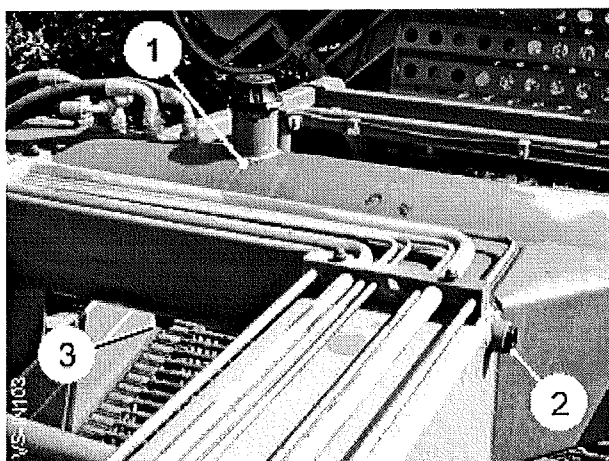
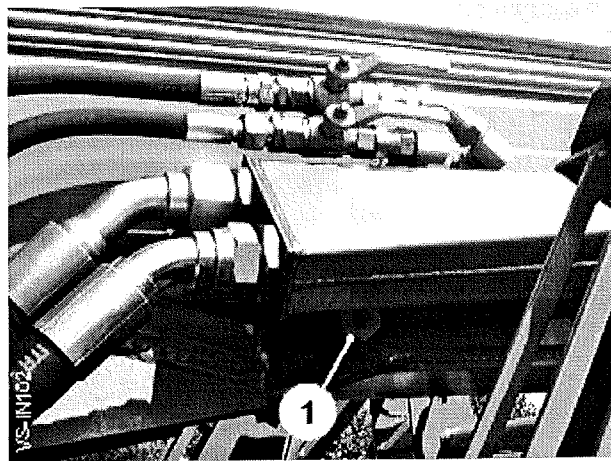

Fig 35
Fig 36
To extend the life of the hydraulic system, the hydraulic oil should be carefully monitored. The hot oil level should be kept at approximately 50mm below the bottom of the chassis mounted filler neck (item 1, figure 35), and covering the sight glass (item 2, figure 35). Maintain the filler level by topping up or refilling with Esso Nuto 46 Hydraulic Oil. The reservoir holds approximately 400 litres. If a high water content becomes apparent or a cloudiness in the oil, the hydraulic oil should be changed.
The oil reservoir magnetic plug (item 1, figure 36), located underneath the LH suction filter manifold, should be removed and cleaned annually. This plug is also used to drain the reservoir, so if the oil is not being changed a temporary 3/4" BSP plug should be used to seal the tank and minimise oil loss. An additional drain plug (item 3, figure 35) is used to drain the remaining oil left in the top section of the tank.